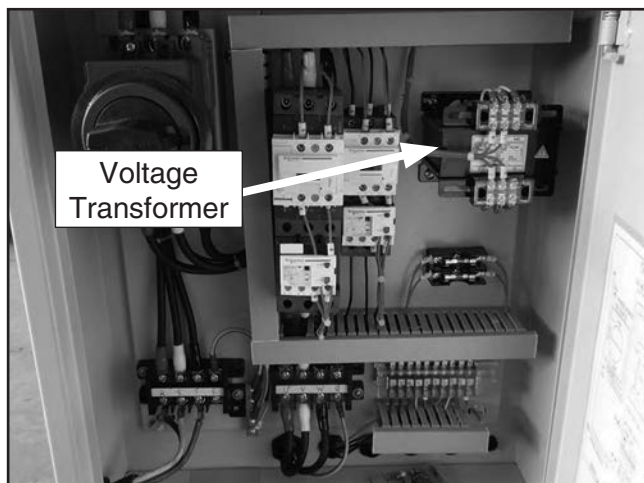

Figure 68. Inside of electrical box.
2. Open the electrical box and locate the voltage transformer shown in **Figure 68**.